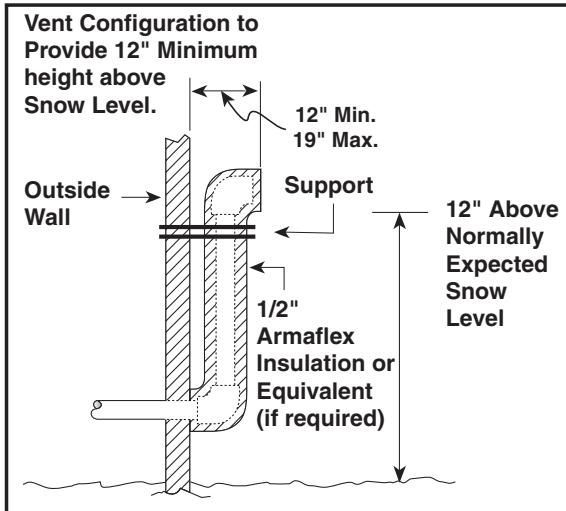

Figure 17. Alternate Horizontal Vent Installation
1. The termination must be 12 inches above snow level or grade level whichever is higher. See Figure 17 for alternate method to achieve 12" above snow level.
When the vent pipe must exit an exterior wall close to the grade or expected snow level, a riser should be provided as shown in Figure 17. Insulation is required to prevent freezing of this section of pipe.